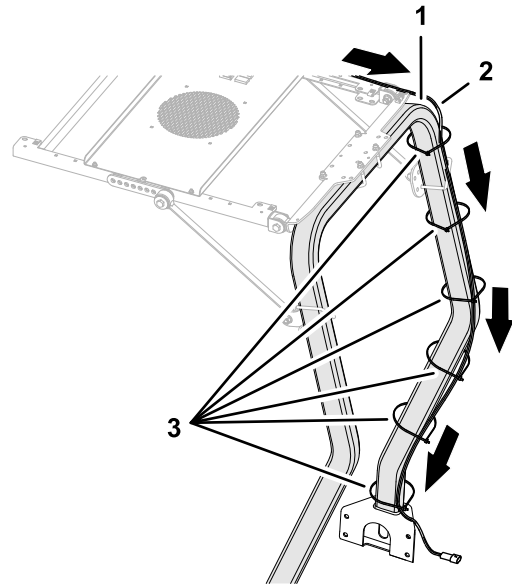

Figure 7
1. Route the sunshade wire harness along the roll-bar tube as shown in Figure 7.
2. Secure the wire harness to the roll-bar tube with the cable ties as needed (Figure 7).
4. Secure the sunshade wire harness to the roll-bar tube with the cable ties as needed (Figure 7).